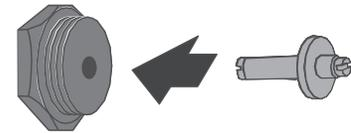

Figure 11
- 5** Reverse the retainer pin and snap it back into the regulator cap (see Figure 11)